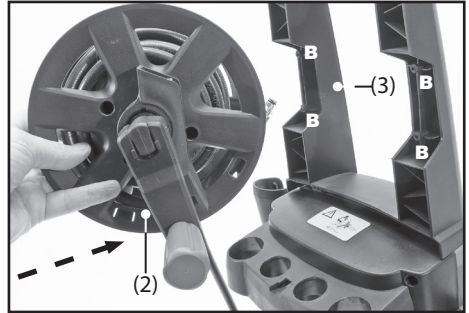

FIG.9
8.5 ATTACHING THE INTEGRATED HOSE REEL (03095 and 03096 only) – FIGS.9 – 10
- Position the hose reel section (15) within the cut out recessed area of the handle section (3).
- Locate the 4 supplied screws (22) with the mounting point holes (B) and screw in to secure the hose reel to the handle.